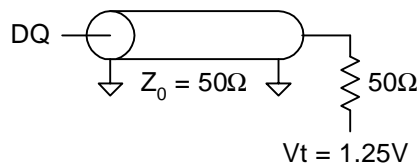

Fig. 1 OUTPUT LOAD EQUIVALENT
Output load	See Figures 1
- Test conditions as specified with the output loading as shown in Fig. 1 unless otherwise noted.
- Capacitance derating applies to capacitance different from the load capacitance shown in Fig. 1.